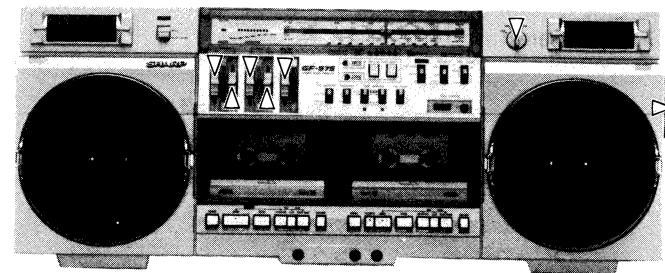

Figure 5-1
1. Pull out five control knobs, one fine tuning control knob, and one tuning control knob, all at the front surface of the unit. See Fig. 5-1.